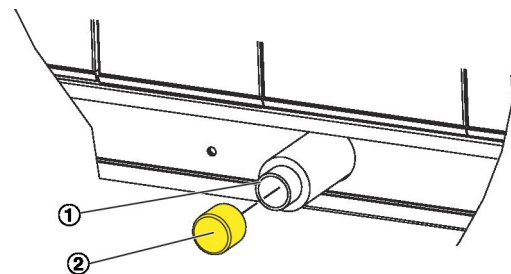

Fig. 26: Condensate drain
2. ▶ Remove the protective cap (Fig. 26 /2) from each drain (Fig. 26 /1) of the condensate drip tray.
4. ▶ Connect a drain trap to each condensate drain (Fig. 26 /1).